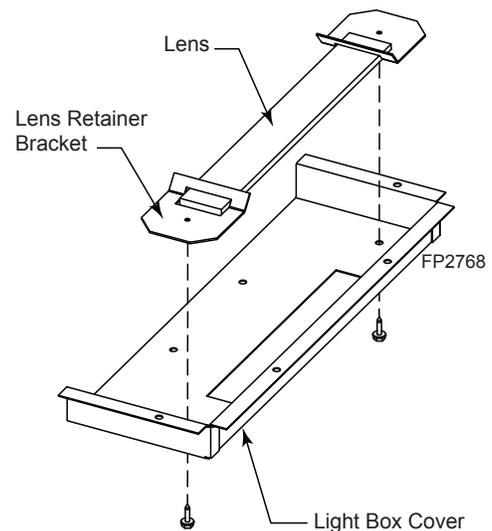

Figure 60 - Remove Lens Retainer Bracket
4. The light lenses are included in the log packaging. Remove the lens retainer brackets and install the light lenses into the light box covers as shown in *Figure 60*.